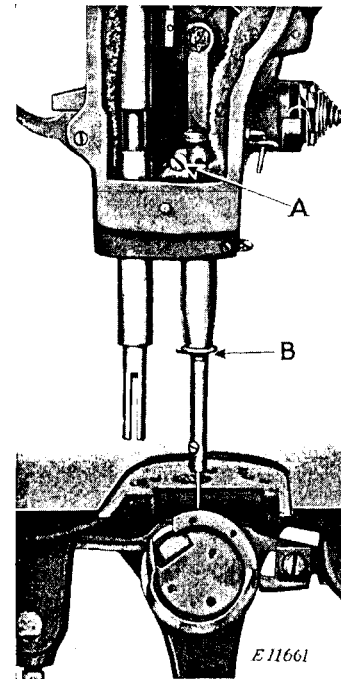

Fig. 18. Showing Needle Bar Set at the Correct Height
In case the needle bar is not set at the correct height, loosen the needle bar connecting stud pinch screw (A, Fig. 18) and move the needle bar up or down until the upper timing mark is in the position, as instructed above, then securely tighten the screw (A).
Turn the balance wheel over toward you until the needle bar moves down to its lowest point. When the needle bar is in this position, the upper timing mark on the needle bar should be just visible at the lower end of the needle bar bushing, as shown at B, in Fig. 18.